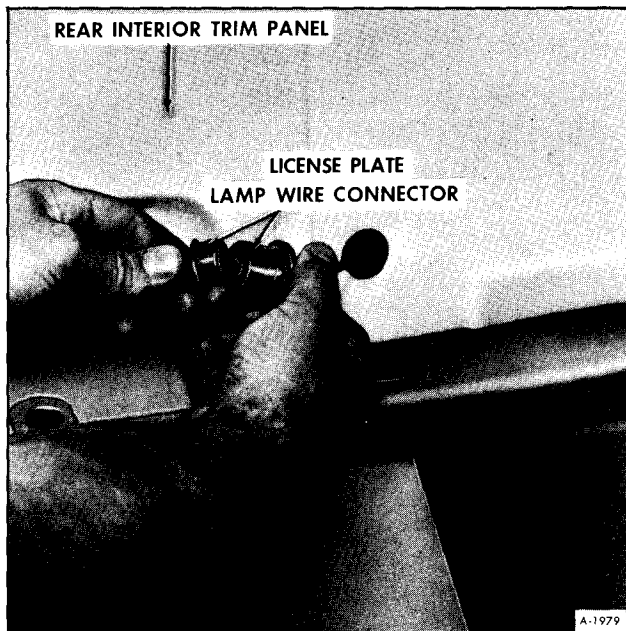

Figure 42—Disconnecting Wire to License Plate Lamp
1. Disconnect wires for license plate light at lower left-hand inside corner as shown in Figure 42.